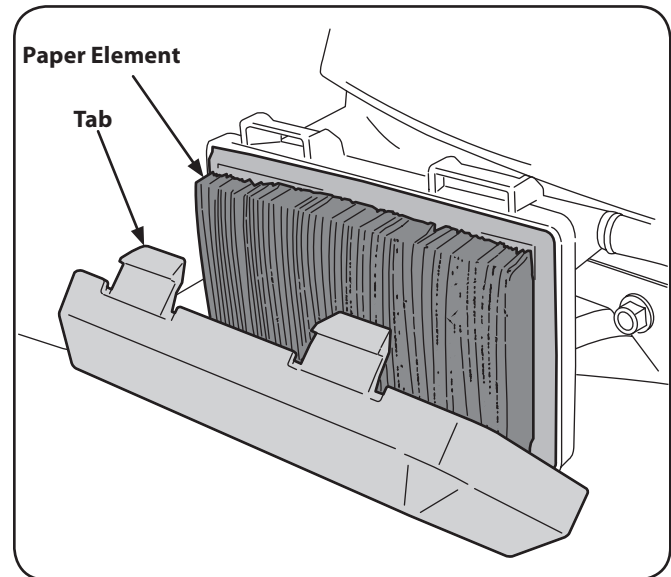

Figure 6-2
1. Press down on the tabs securing the air filter cover. Pull back and remove the cover. See Figure 6-2.